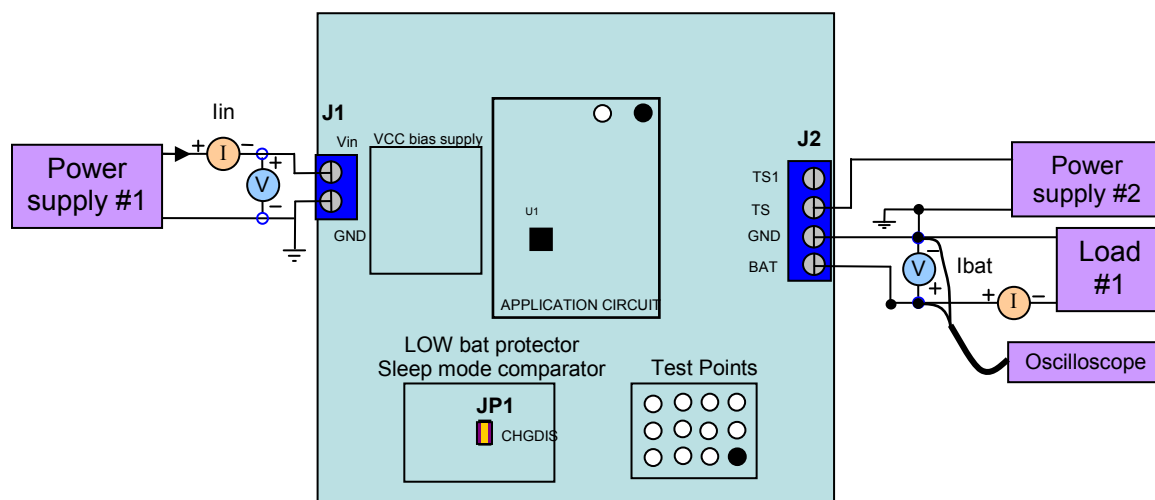

Figure 1: Original test setup for HPA603 (bq24610EVM-HV)
- J) After the steps above, the test setup for HPA603 is shown in Figure 1.